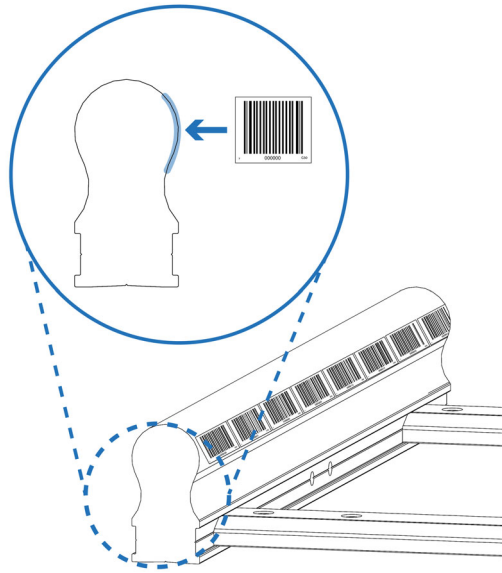

Figure 7 Barcode Tape Position
3. For both integrated and standard rails, place the barcode tape along the convex upper portion of the rail, as shown in **Figure 7**.